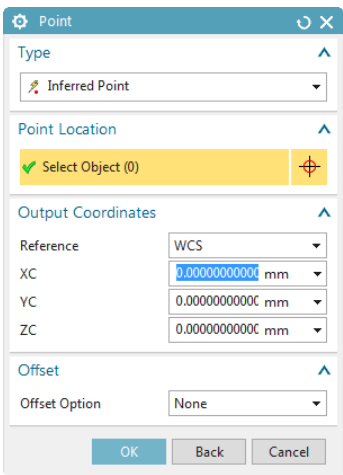
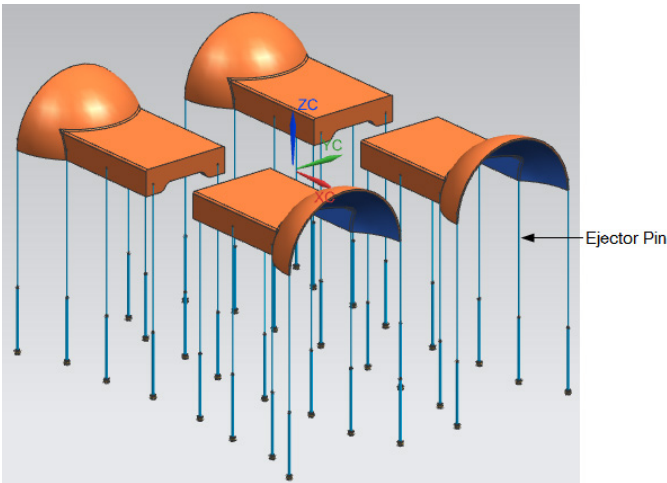

Figure 16-122 The *Point* dialog box
Figure 16-123 The arrangement of ejector pin in the mold assembly
3. Select **EJP-EHN**, **1**, **160**, and **1** from the **PREFIX**, **CATALOG_DIA**, **CATALOG_LENGTH** and **HEAD_TYPE** drop-down lists respectively in the **Details** rollout. Choose the **Apply** button; the **Point** dialog box is displayed, refer to Figure 16-122. Specify the position of the ejector pin by placing the point. Choose the **Cancel** button to close the dialog box. Next, choose the **OK** button to close the **Standard Part Management** dialog box and the **Information** window. Refer to Figure 16-123 for arrangement of ejector pin.